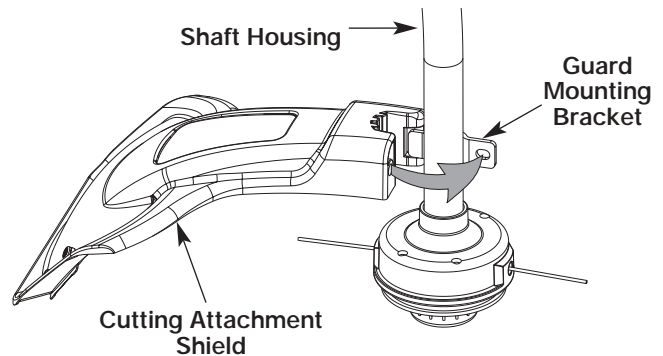

Figure 3
1. Place the cutting attachment shield onto the shaft housing. Be sure the guard mounting bracket slides into the slot on the edge of the cutting shield. Rotate the shield into place, counterclockwise. The holes in the guard mounting bracket and cutting attachment shield will line up. See Figure 3.